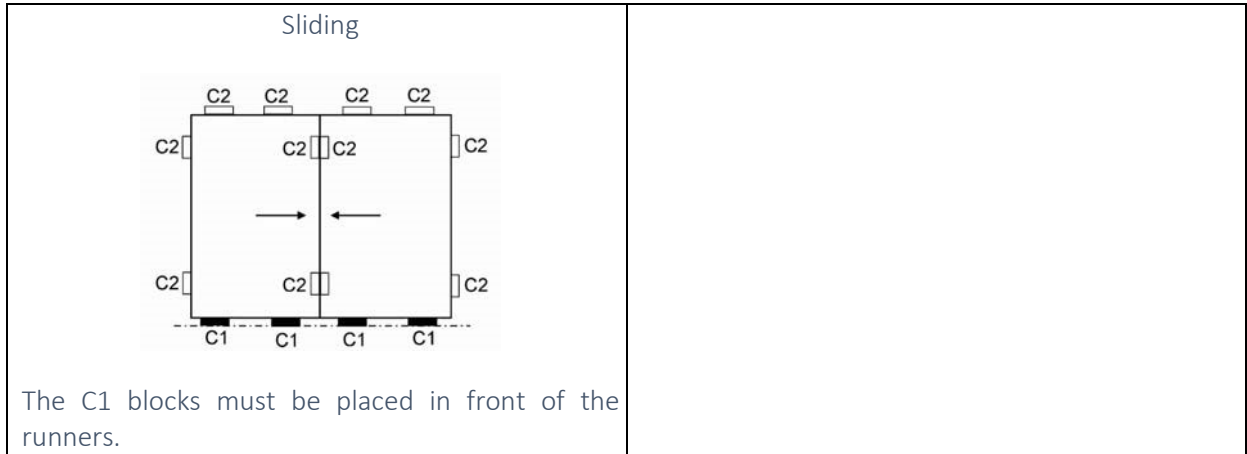

Figure 4 – Position of setting blocks and location blocks depending on the type of frame
- n is the number of setting blocks below the lower edge of the glazing ($n = 1$ or 2 depending on the type of frame, Figure 4)
Figure 4 shows the position of the setting blocks and location blocks depending on the type of opening in the frame.